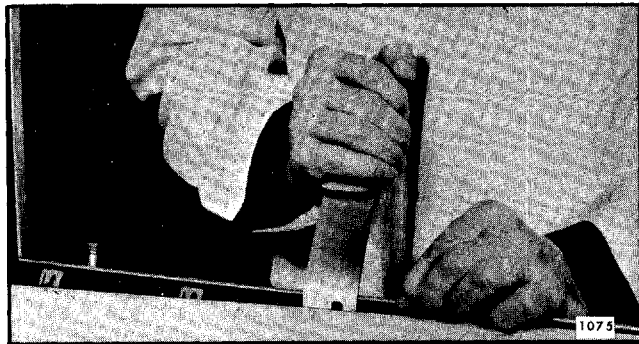

Fig. 5-38-Clip Retained Belt Sealing Strip Removal
- b. Using a flat-bladed tool that is slotted to fit over tang of clip, disengage clips from slots in door panel return flange as shown in Figure 5-38.